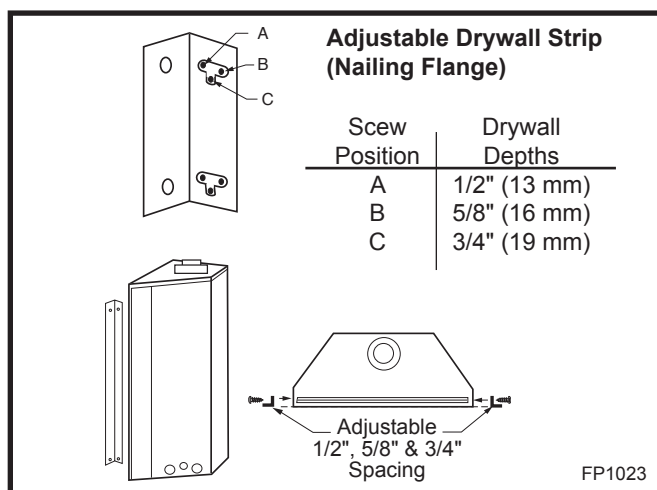

Fig. 4 Adjustable drywall strip (nailing flange).
4. Attach heater to frame using adjustable frame drywall strips (located behind access door for shipping). Preset depth to suit facing material (adjustable to 1/2" , 5/8" or 3/4" depths). (Fig. 4)
5. Use existing screws in side of unit to attach drywall strip. Measure from face of heater to face of drywall strip to determine final depth. (Fig. 4)